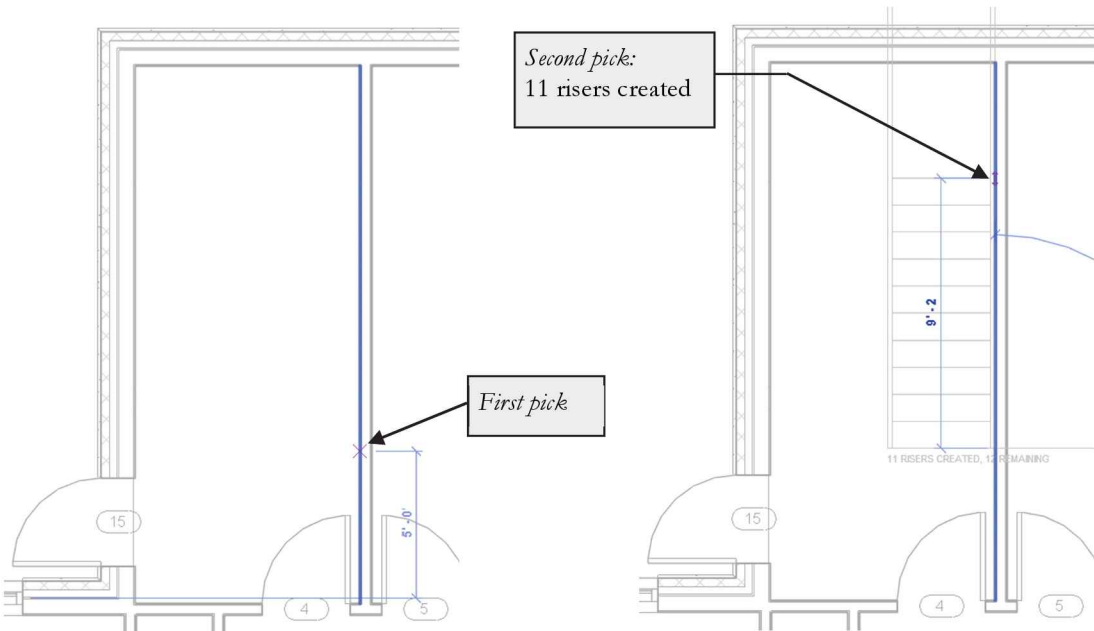

FIGURE 7-7.3 1st pick
6. Position the cursor approximately as shown in **Figure 7-7.3**; you are selecting the start point for the first step. Make sure you are snapping to the wall with *Nearest*.